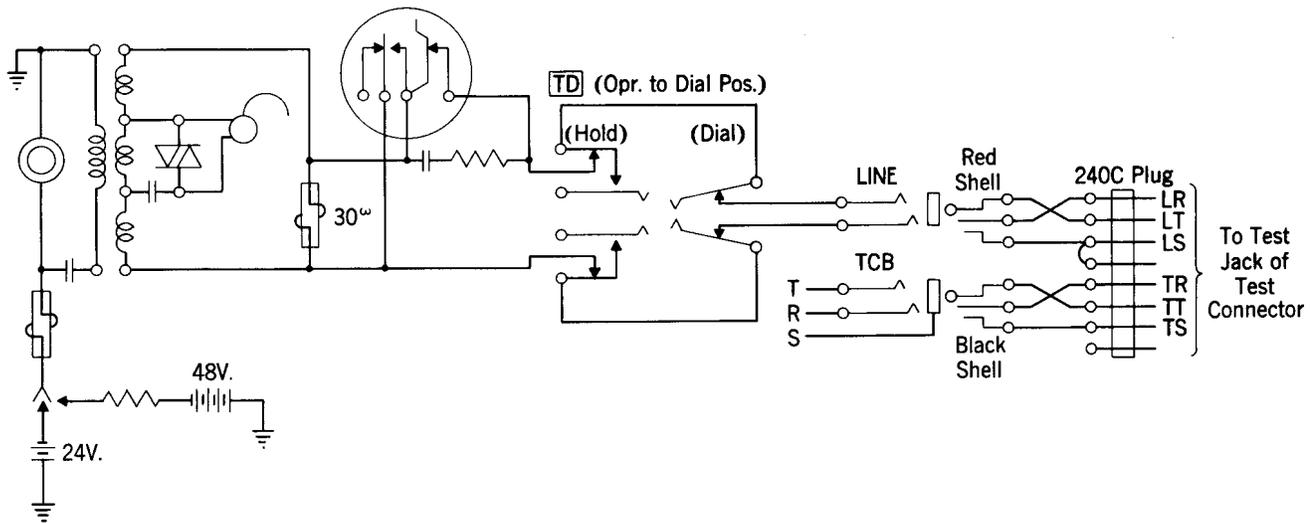

Fig. 1—Connection to Test Connector
**3.03 Used at Test Connectors in Step-by-Step Offices:** Plug the No. 240C plug of the No. 6P4A cord into the jack of the test connector. Plug the cord with the red plug into the LINE jack and the cord with the black plug into the TC-B jack of the cabinet. Operate the TD key to the "dial" position (first operated position) and dial the tens and units digits, thus causing the test connector to select the line. To release the telephone circuit operate the TD key to the "hold" position (second operated position). This will also hold the test connector on the line (see Fig. 1).